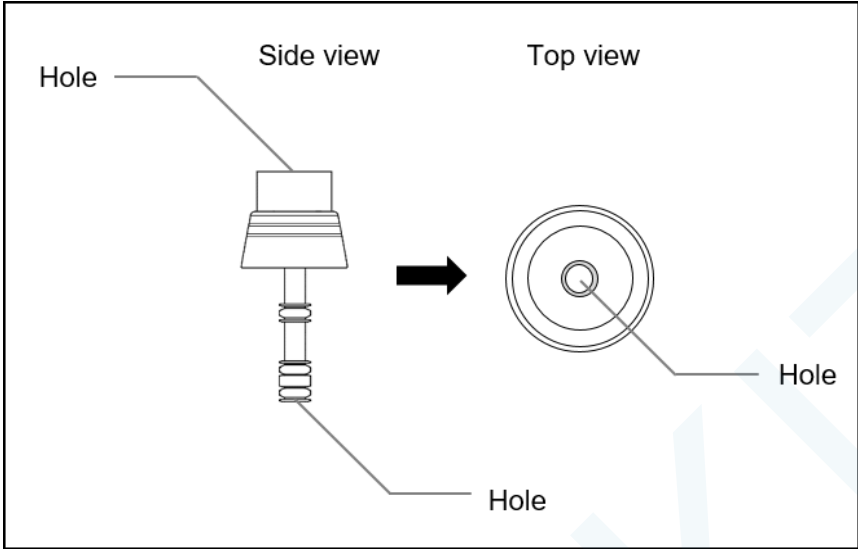

Figure 3.7
- Air/water supply button and suction button are consumables. If the button is abnormal, replace it with a new one. Check that the hole in the air/water supply button is not blocked (Figure 3.7). If blocked, air supply will not stop, causing pain, bleeding or perforation to the animal.
1. Check that the holes in the buttons are not blocked (Figures 3.7 and 3.8).
2. Check that the buttons are not deformed or cracked (Figures 3.7 and 3.8).
3. Check air/water supply button gaskets for excessive scratches or cracks (Figure 3.7).